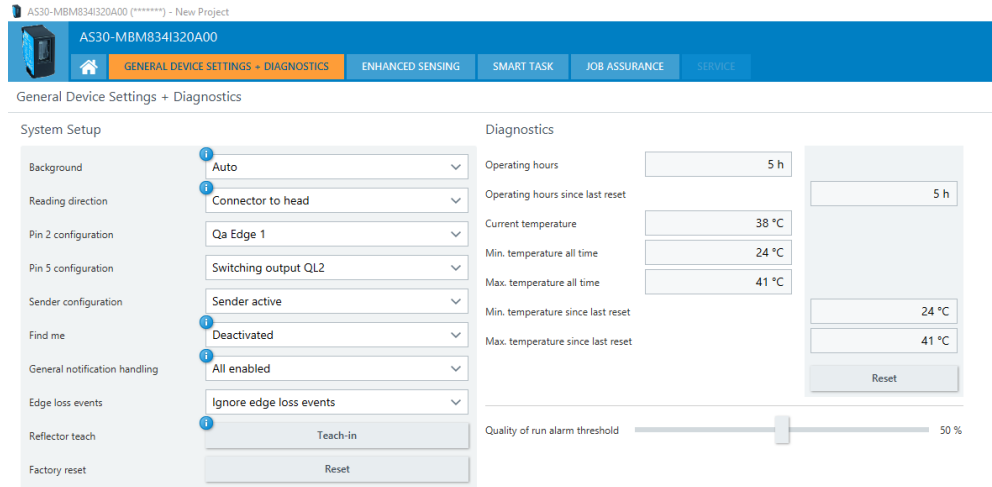

Figure 4: General Device Settings + Diagnostics tab
- **Other settings (see figure 4)**